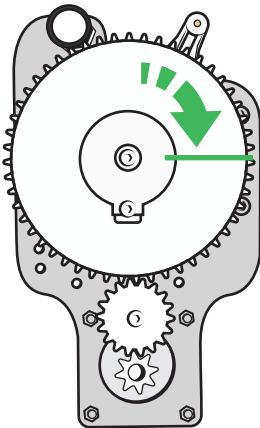

Figure 133
18. Turn the large gear wheel clockwise a quarter turn. See Figure 133.